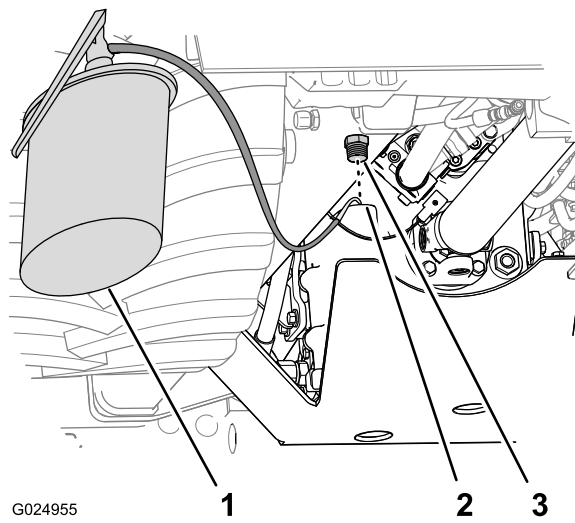

Figure 3
4. Fill the transmission with the specified oil through the fill port (Figure 3).